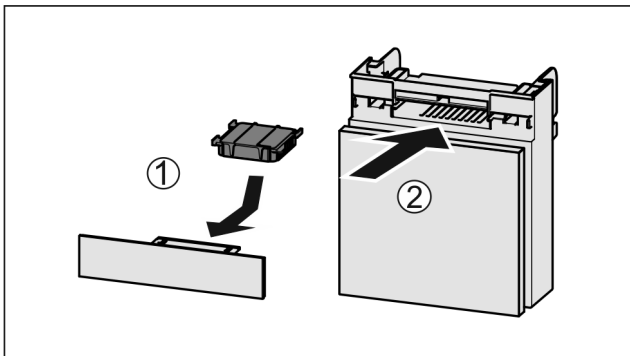

Fig. 219
- ▶ Insert the carbon filter as shown in the diagram Fig. 219 (1).
- ▶ Push the compartment in Fig. 219 (2).